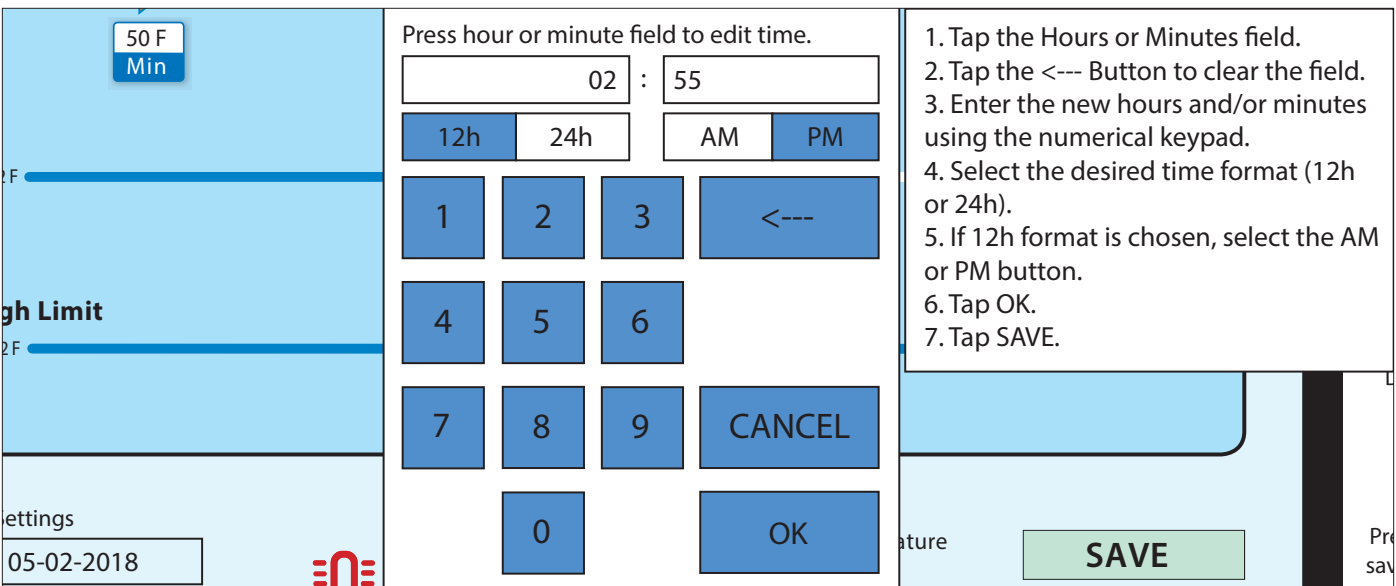

Figure 52 - Setting the Time
- i. Tap Installer on the display Navigation Bar to open the Installer settings. Then tap NEXT repeatedly to navigate to Service Mode. See Figure 52. When prompted for a password, enter "928".